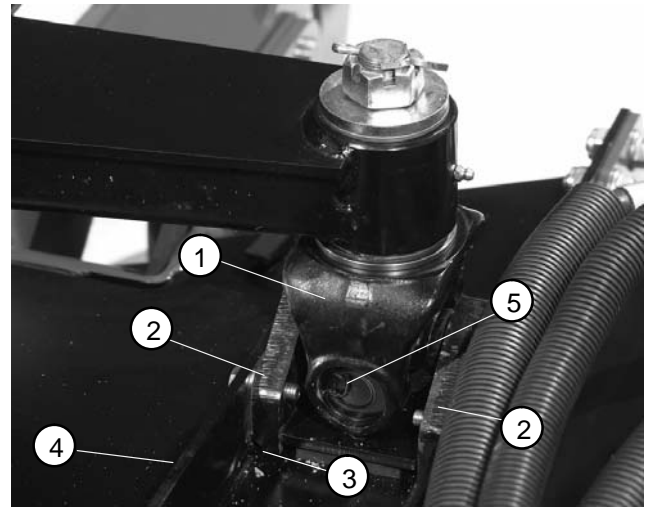

Figure 12
1. Remove snap rings from yoke (Fig. 12).
1. Press yoke joint to cutting deck base mounts with the angled edge of the mount assembled away from the joint (Fig. 12). The outside of the yoke bearing cup should be flush with the mount surface.
3. Position yoke joint with base mounts to deck mounts (Fig. 12) and install shims. Secure base mounts with cap screws and flat washers. Torque screws from 27 to 33 ft–lb (37 to 44 N–m).